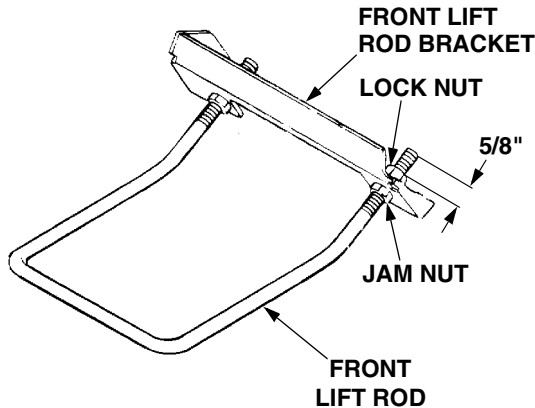

Figure 33
- Initially adjust the front lift rod to allow 5/8 inch of thread to protrude beyond both lock nuts of the front lift rod/bracket assembly (Refer to Figure 33).
- To adjust the downward tilt of the blades, adjustment of the front lift rod is required. Refer to Figure 33 and proceed as follows: